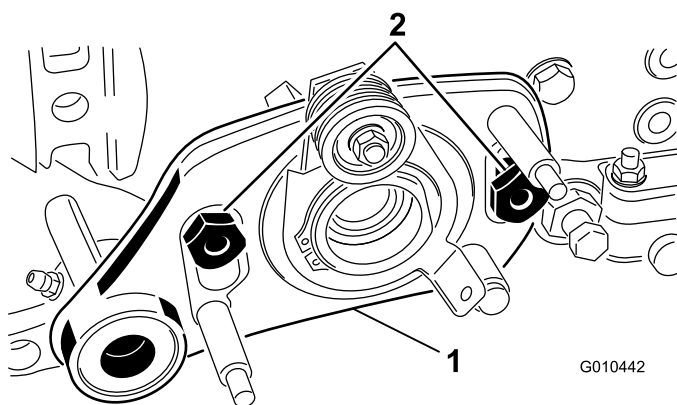

Figure 35
8. Remove the 2 shoulder nuts securing the groomer-drive assembly to the sideplate adapters (Figure 35).